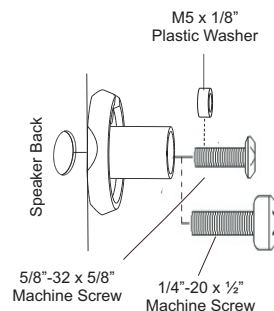

Figure 3
- Check the size of the hole and make sure the 5/8"-32 x 5/8" machine screw, the 1/4"-20 x 1/2" machine screw, the M6 x 20mm, or the M5 x 20mm fits inside (Figure 3).